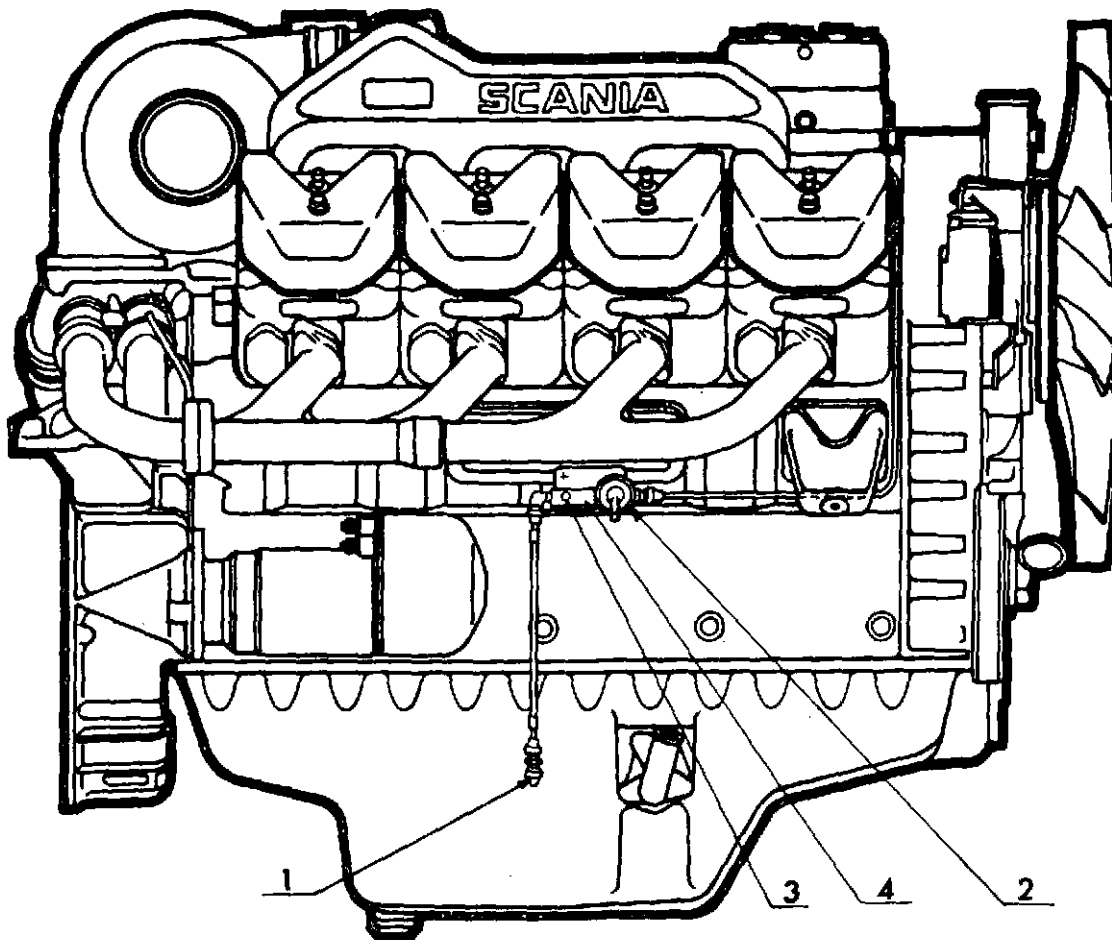

Fig. E5a
Pressure outlet for lubricating oil pressure is located in the engine compartment near the lubricating oil outlet to turbocharger. From this point there is a pipe line drawn for connection of pressure gauge, the pipe of which branches out either at the left front end of engine pos. 6 fig. FIC under "Engine Dimensions" or at the right-hand side of engine according to fig. E5a. When connecting the oil gauge transmitter to electrical indicator, this is connected with a distributor piece No. 208310 provided with two outlets, in the oil pipe line according to fig., to which the oil pressure monitor can also be fitted in cases arising. The oil pressure monitor can also be connected to pressure outlets on the cyclone cleaner of lubricating oil filter, but the monitor must then be set specially for this measuring point.